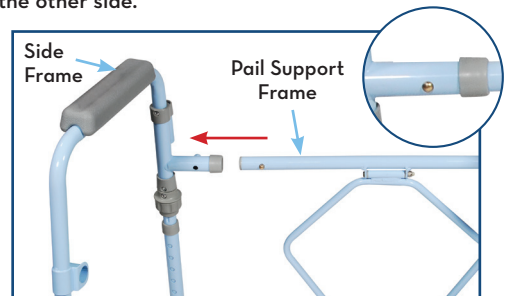

figure 3
3. Line up the side frame with the pail support frame (figure 3). Slide the pail support frame into the side frame while depressing the push pins until the push pin "pops" into the hole on the side frame. Once the one side of the pail support frame is secure in the side frame, turn the lock knob on the back of the side frame until hand tight (figure 4). Repeat on the other side.